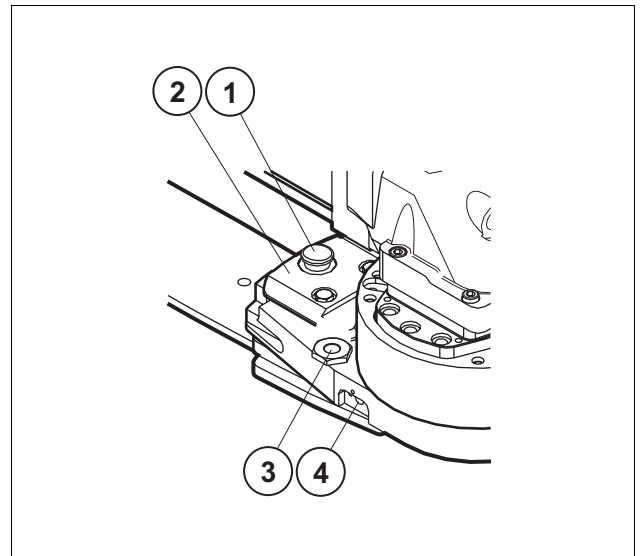

Fig. 19 Replacing Saw Chain
2. Depressurize the chain tension system by pressing the button on the pilot valve (4), *See Fig. 19.*